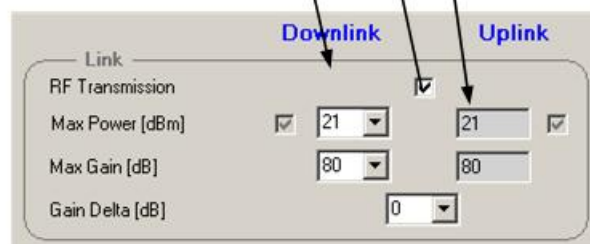

Figure 17: Link Main Fields in Controls and Parameters Screen
2. Check that the main operational boxes are on for proper operation (see Figure 17)
4. Select and verify the values for the main parameters in the Link and Smart ALC data fields (see Figure 17 to Figure 19)